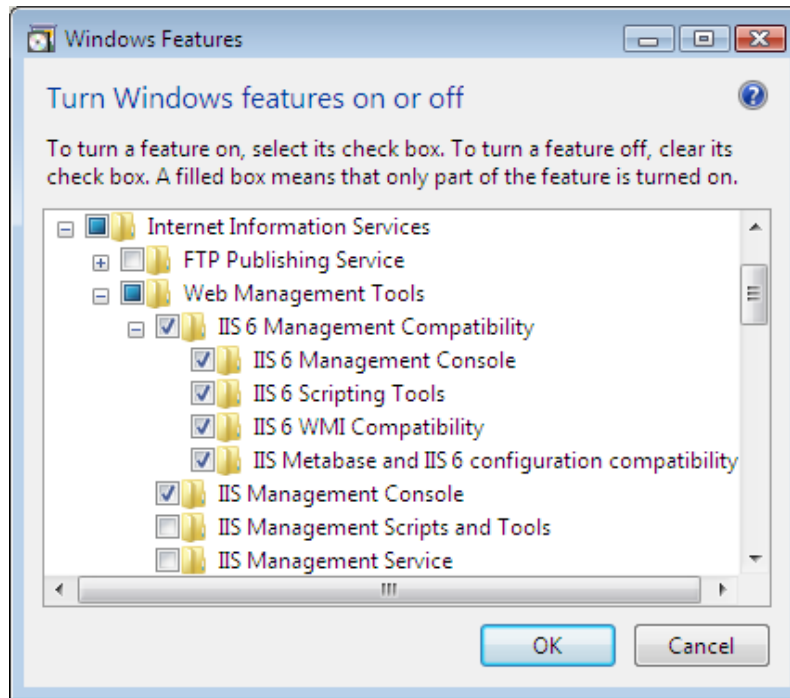

Figure 24: Windows Features Window – Internet Information Services
6. Expand **Internet Information Services | Web Management Tools | IIS 6 Management Compatibility**. Verify that all its branches are checked as shown in Figure 24.